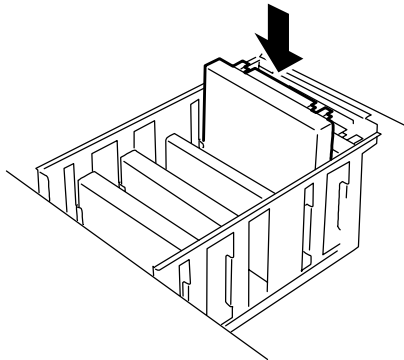

Figure 4-12. Aligning the Processor Cartridge with its Board Slot
14. Align the processor cartridge with the slot it is to be installed in so that the heat sink faces in the same direction as the standard processor, see Figure 4-12.